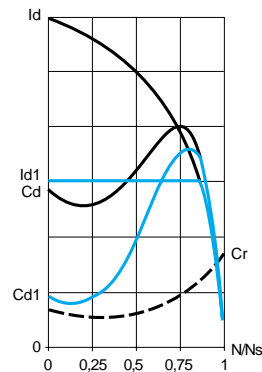

Figure 1
■ Figure 1 shows the behaviour of the torque in relation to the starting current. Limiting the starting current  $I_s$  to a preset value  $I_{s1}$  will reduce the starting torque  $T_{s1}$  to a value which is almost equal to the ratio of the square of currents  $I_s$  and  $I_{s1}$ .